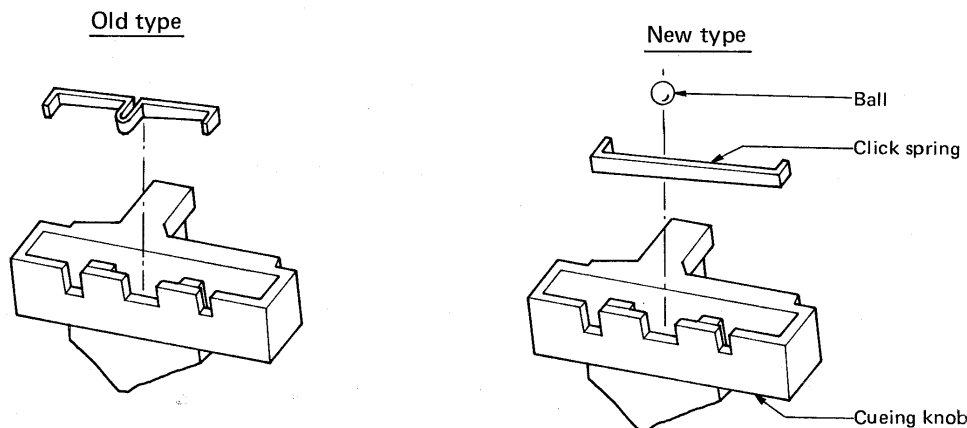

Fig 16.
2. Repair parts of new type will be supplied. (Fig 16.)